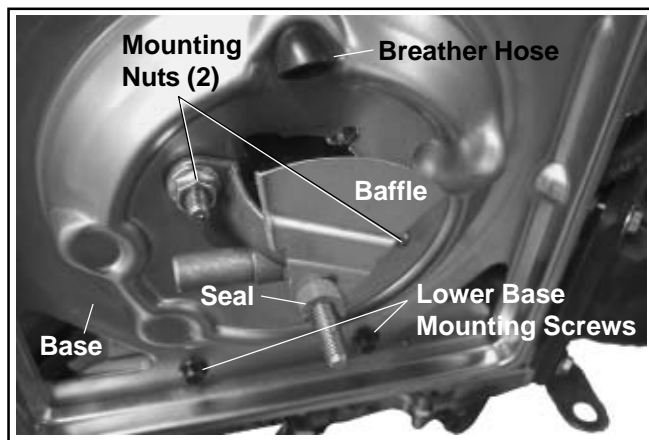

Figure 4-7. Base Plate Removal on Standard Type.
2. Remove the two hex. flange nuts securing the bracket, or spitback cup with seal and baffle (if equipped) to base. If a plastic intake manifold is used, remove the two lower base mounting screws. See Figure 4-7.